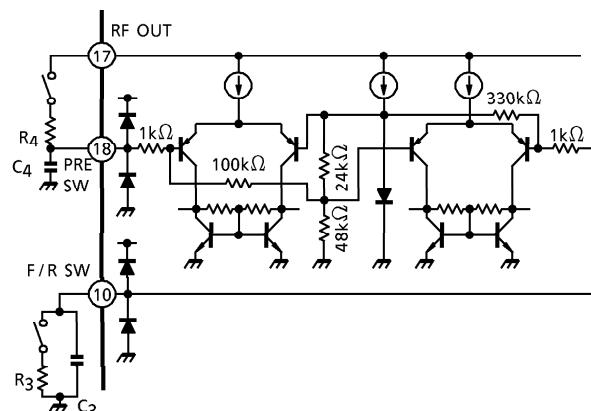

Fig.2 Internal equivalent circuit of F/R SW and PRE SW and the external circuits reducing a pop sound in switchover
**(3) F/R SW**
The terminal of F/R SW (pin⑩) should not be applied to higher voltage than  $V_{17}$  (RF OUT), because the ripple filter circuit supplies the F/R SW circuit with power source. And in reverse mode, the terminal of F/R SW should be connected with GND line through  $R_3$  ( $180\sim270\text{k}\Omega$ ), because the F/R SW circuit doesn't operate normally. It is advised to connect an external capacitor ( $C_3 \approx 1\mu\text{F}$ ), in order to reduce a pop sound in switchover between F/R mode (see Fig.2). As for the constants, select the optimum one depending on each a set carefully.
It is advised to connect a external resistor ( $R_4 = 100\sim 330k\Omega$ ) and capacitor ( $C_4 = 1\mu F$ ), in order to reduce a pop sound in switchover between PRE SW on/off mode (see Fig.2). As for the constants, select the optimum one depending on each a set carefully.